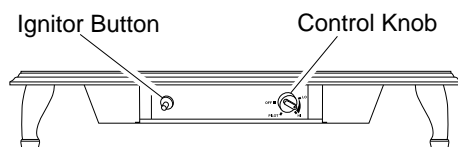

Figure 29 - Control Knob and Ignitor Button Location
- Wait five (5) minutes to clear out any gas. Then smell for gas, including near the floor. If you smell gas, STOP! Follow "B" in the safety information on page 14, column 1. If you don't smell gas, go to the next step.
- Slightly depress and turn control knob counterclockwise to the PILOT position. Keep control knob pressed in for five (5) seconds (see Figure 29).